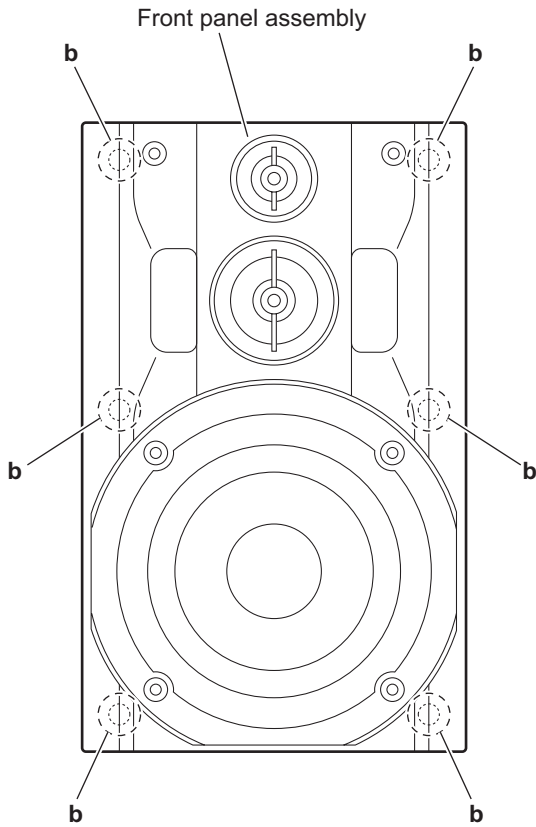

Fig.2
3.4.2 Removing the front panel assembly (See Figs.2 to 4)
(1) Insert the tip of a flat-bladed screwdriver or similar tool into the space between the speaker main body and front panel assembly, and lift the front panel assembly little by little to remove the sections **b**. (See Figs.2 and 3.)